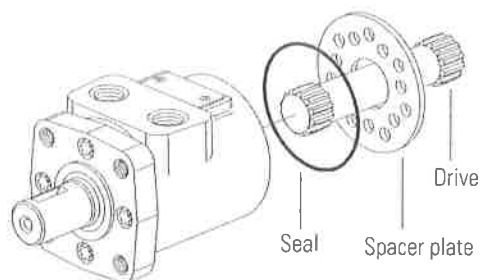

Figure 4
8. Remove drive (see Figure 4).